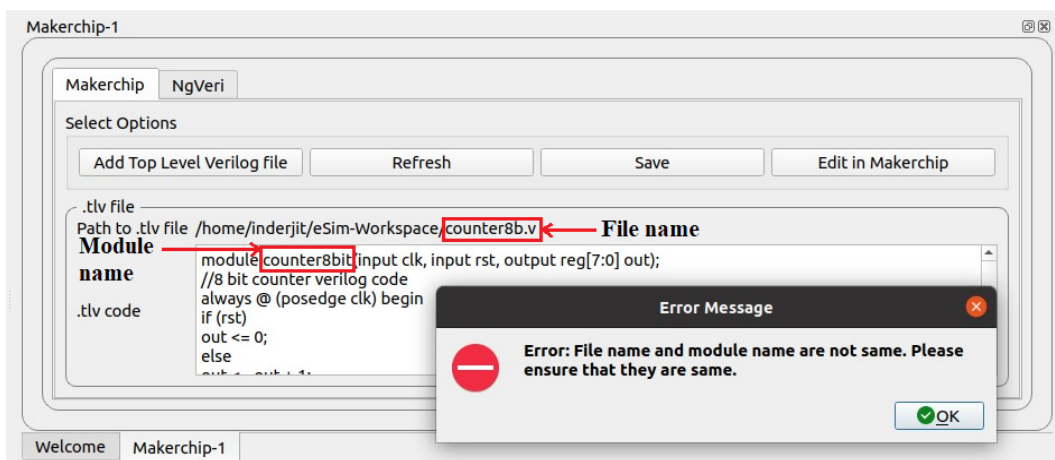

Figure 10.45: Verilog file and module name error
7. Verilog filename should be the same as top-level verilog module name, otherwise the following error message will appear as shown in Fig. 10.45. This error appears when a user tries to open TL verilog in Makerchip by clicking **Edit in Makerchip** button.